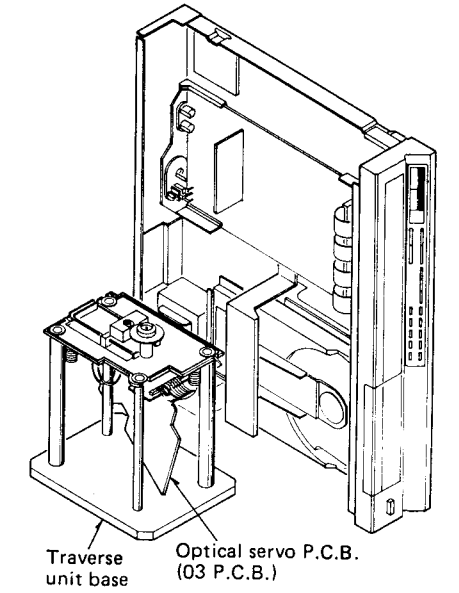

Fig. 1
- Position the assembly as shown in Fig. 1.